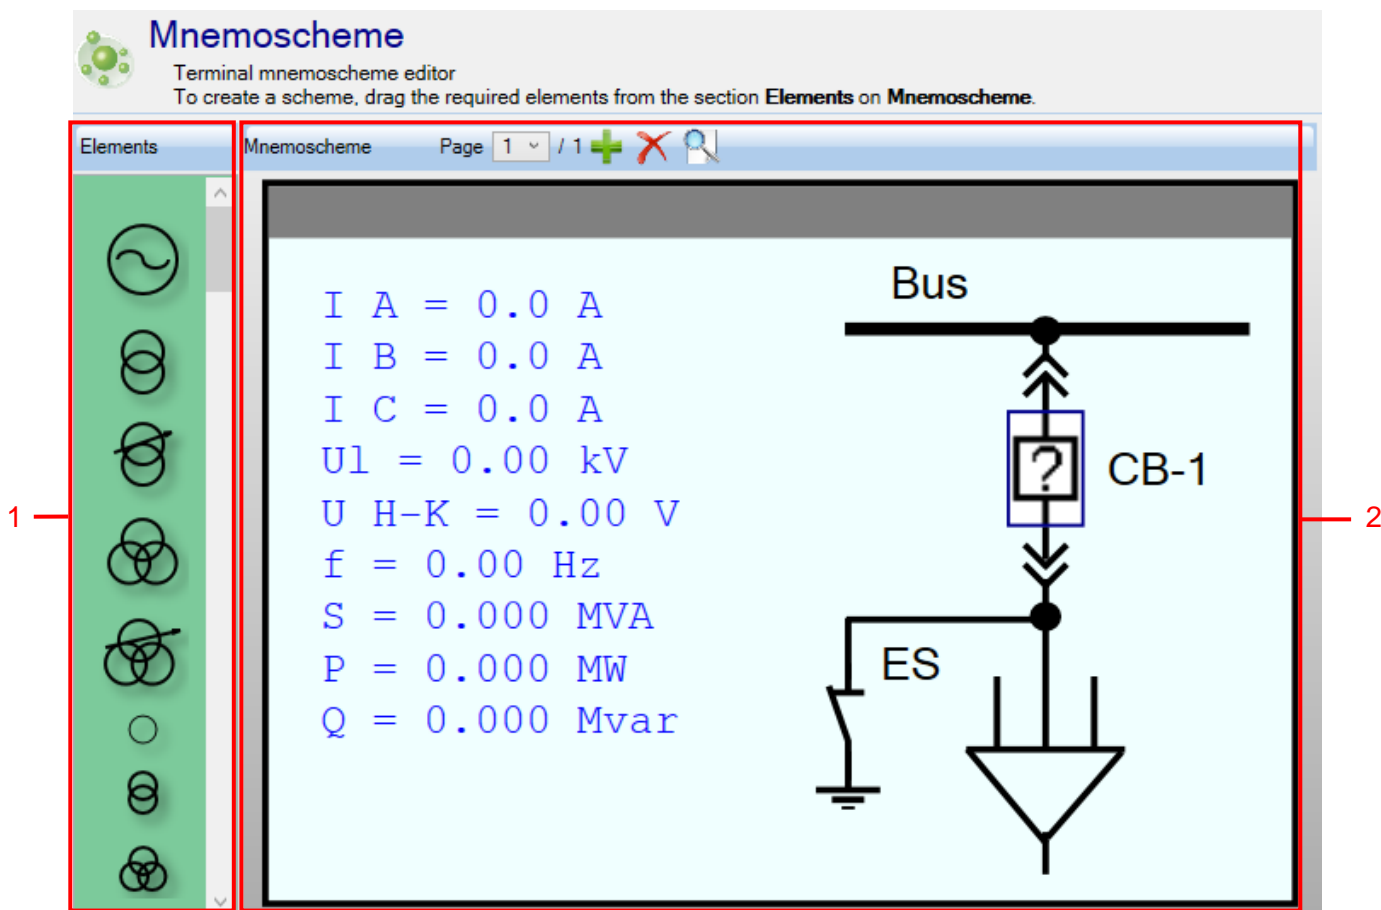

Figure 214 – Mimic diagram window
The **Mimic diagram** window, device tree menu **Logic part** → **Mimic diagram** (figure 214), is designed to create a graphical diagram that will be displayed on the IED.
The mimic diagram consists of two parts: a library of elements (figure 214, item 1) and a workspace (figure 214, item 2).